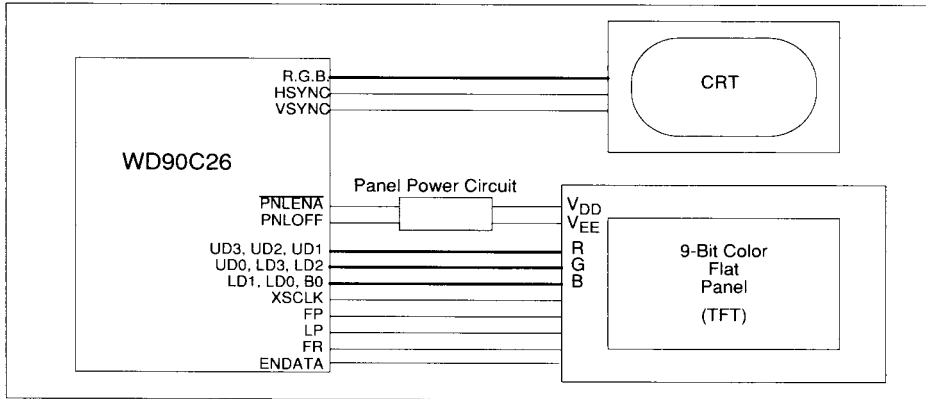

FIGURE 6-20 9-BIT COLOR LCD PANEL INTERFACE
- 9-Bit Color LCD Panel Interface (Figure 6-20)